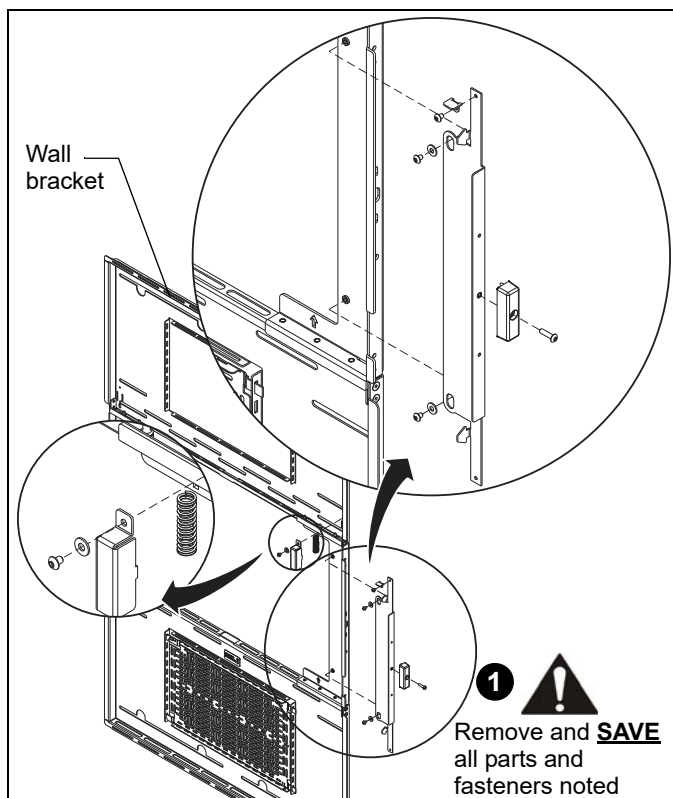

Figure 12
IMPORTANT ! : Cables should not be placed **OVER** the wall bracket flanges. Damage to cables may occur. (See Figure 12)
1. Remove **AND SAVE** the hardware on the latch (right) side of the wall bracket. (See Figure 12)